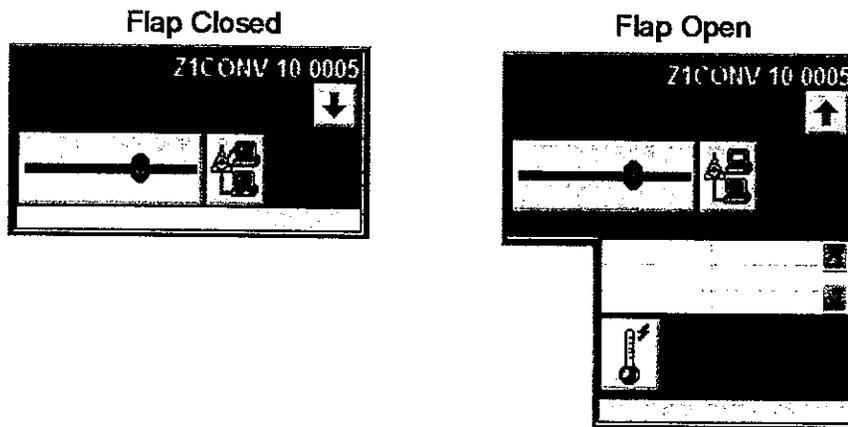

Figure 1-3: Larger Compressed Radio Resource
- **Larger Compressed Resource** – A radio resource that always shows some of the indicators and controls, but allows the dispatch console to hide some of the others (Figure 1-3).